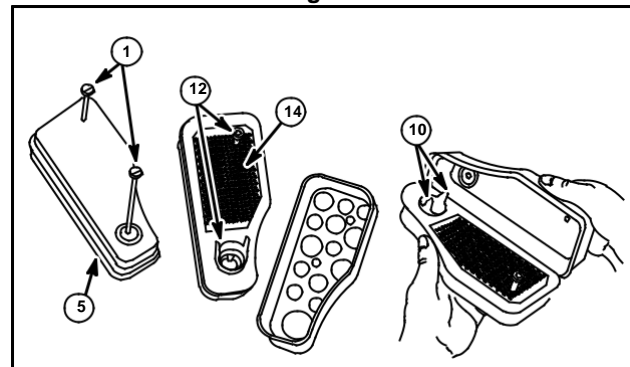

Fig. 15
1. Remove screw(s) (1) and lift off complete air cleaner.
3. Clean spacer(s), element support, screen, cup (3), body (4), and cover (5), (when used).
4. Clean Oil-Foam element (6) as described on page 11.
5. Insert element support, when used, (15), into body (4), making sure that carburetor air intake aligns with cutout in blower housing. Place Oil-Foam element and diverter shield into body. Assemble one of the low points (2) toward narrow edge of element. Make sure that lip (7) of Oil-Foam element extends over edge of body all the way around to assure a protective seal.
6. Install spacer(s) (12) with tangs up (if present) Fig. 15. Install screen (14), diverter shield (13), and cup (3) (when used).
8. Seat air cleaner gasket (8) between body (4) and carburetor and re-install air cleaner assembly on carburetor.